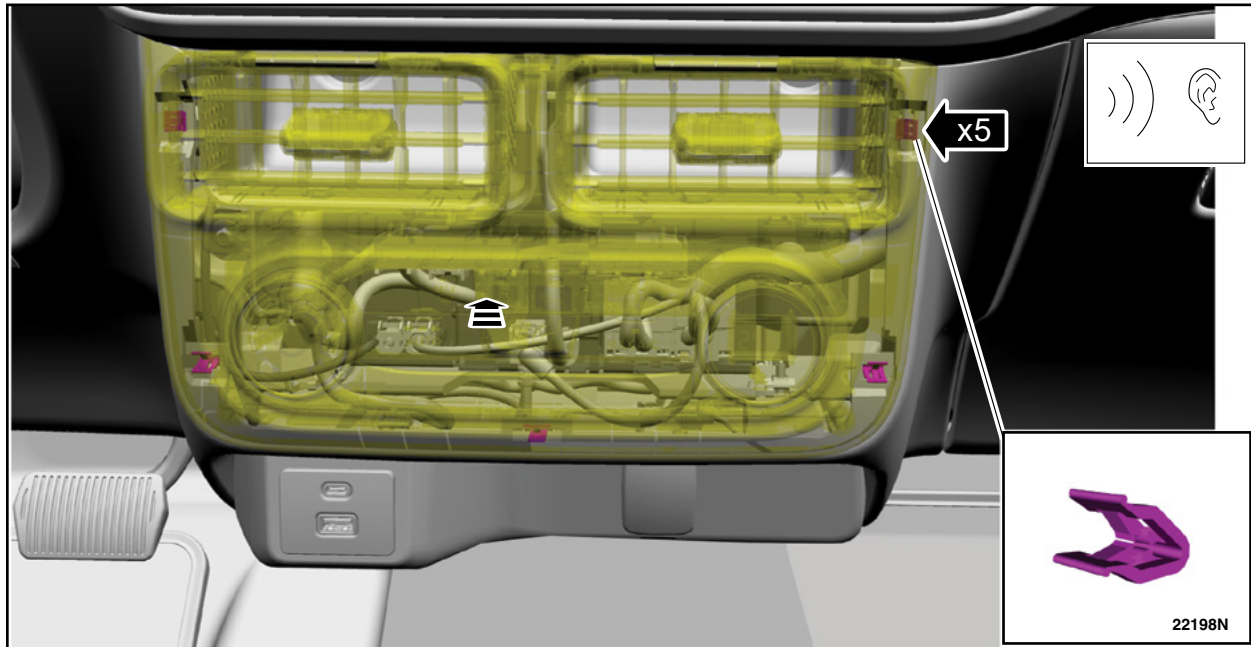

FIGURE 14
12. Engage the clips of the center registers and climate controls assembly. See Figure 14. This completes the recall.